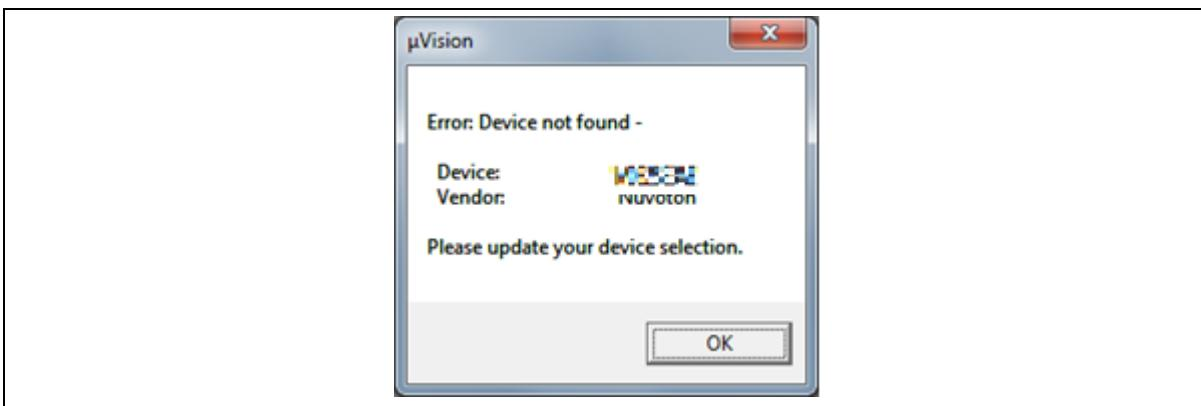
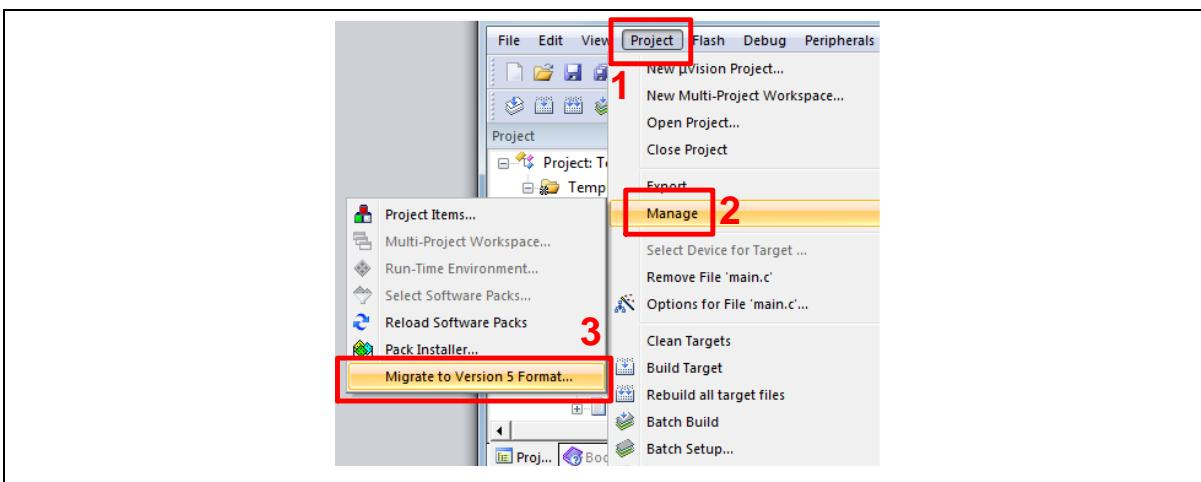

Figure 5.2-9 Warning Message of “Device not found”
Figure 5.2-10 Project File Migrate to Version 5 Format
- (1) Double click the **Template.uvproj** to open the project.
**Note:** If Figure 5.2-9 warning message jumps out, please migrate to version 5 formats as shown in Figure 5.2-10. The **.uvproj** filename extension will change to **.uvprojx.t**.